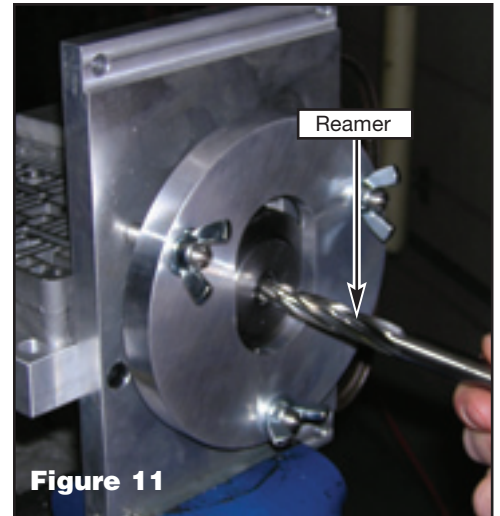

Figure 11
10. Remove alignment pin and install the reamer (see Figure 11).